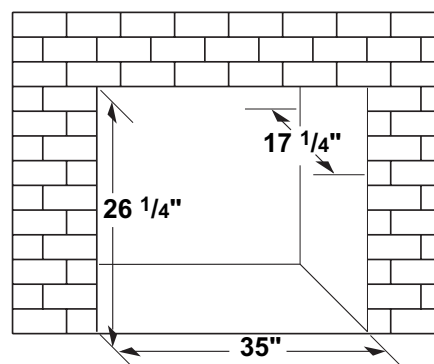

Figure 20 - Rough Opening for Installing in Masonry Fireplace
1. Use dimensions shown in Figure 20 for masonry fireplace opening.